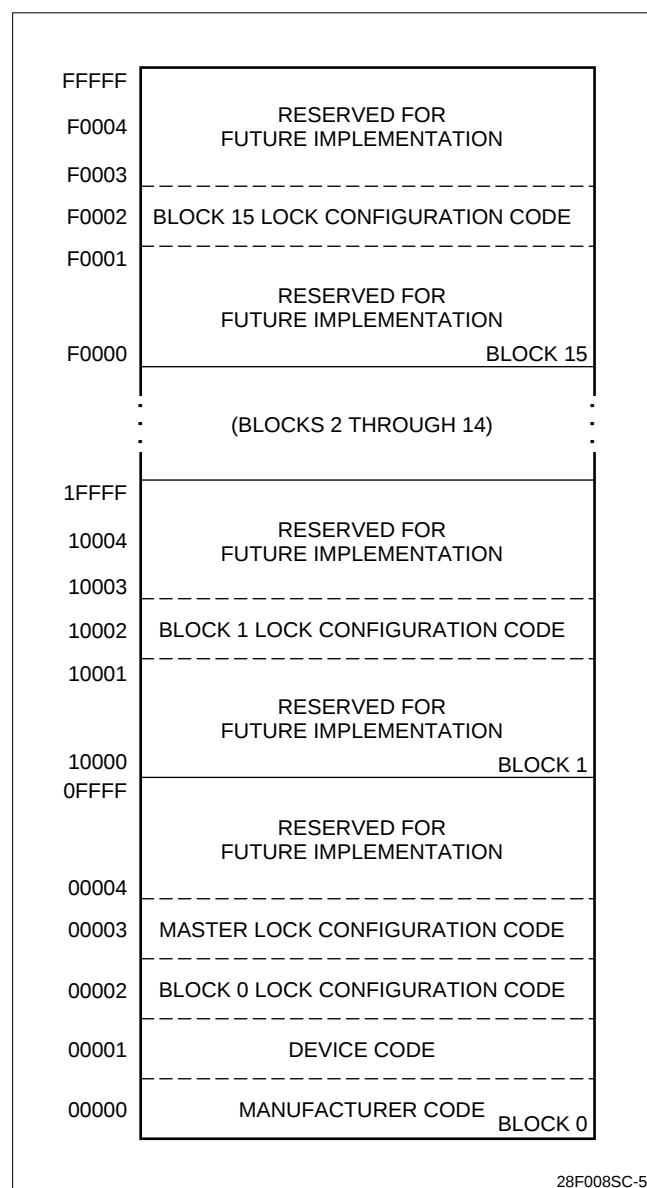

Figure 5. Device Identifier Code Memory Map
The LH28F008SC is a high-performance 8M Smart-Voltage FlashFile memory organized as 1M of 8 bits. The 1M of data is arranged in sixteen 64K blocks which are individually erasable, lockable, and unlockable in-system. The memory map is shown in Figure 5.
The read identifier codes operation outputs the manufacturer code, device code, block lock configuration codes for each block, and the master lock configuration code (see Figure 5). Using the manufacturer and device codes, the system CPU can automatically match the device with its proper algorithms. The block lock and master lock configuration codes identify locked and unlocked blocks and master lock-bit setting.
IA = Identifier Code Address: see Figure 5.
The identifier code operation is initiated by writing the Read Identifier Codes command. Following the command write, read cycles from addresses shown in Figure 5 retrieve the manufacturer, device, block lock configuration and master lock configuration codes (see Identifier Code Table for code values). To terminate the operation, write another valid command. Like the Read Array command, the Read Identifier Codes command functions independently of the V_{PP} and $\overline{RP}$ can be V_{IH} or V_{HH} . Following the Read Identifier Codes command, the following information can be read:
1. X selects the specific block lock configuration code to be read. See Figure 5 for the device identifier code memory map.